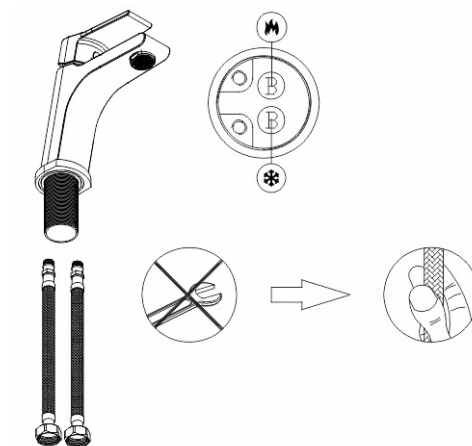

Figure 2
4. Screw in the flexible supply line (Figure 2);